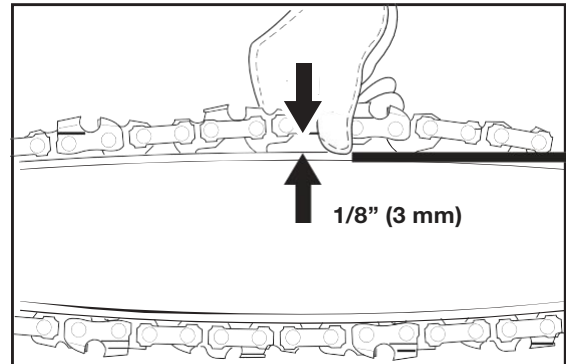

Fig. 1
1. Check the chain tension by pulling the saw chain away from the chain bar. A properly tensioned chain should have roughly 1/8 inch (3 mm) of distance between itself and the bar guide (Fig. 1).